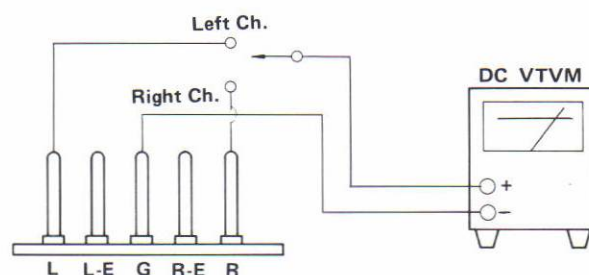

Fig. 23
2. Connect a DC VTVM to test points "L" and "G" ("R" and "G"). Refer to Fig. 23.